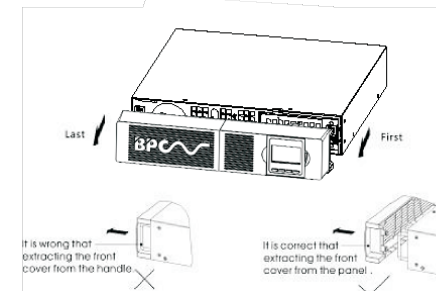

Figure1 Removing the BC Front Cover
1. Remove the front cover of each BC (see Figure 1).
Press the panel side with LCD display, hold the other side and quickly extract it, then extract the other side with display. (see Fig.1)